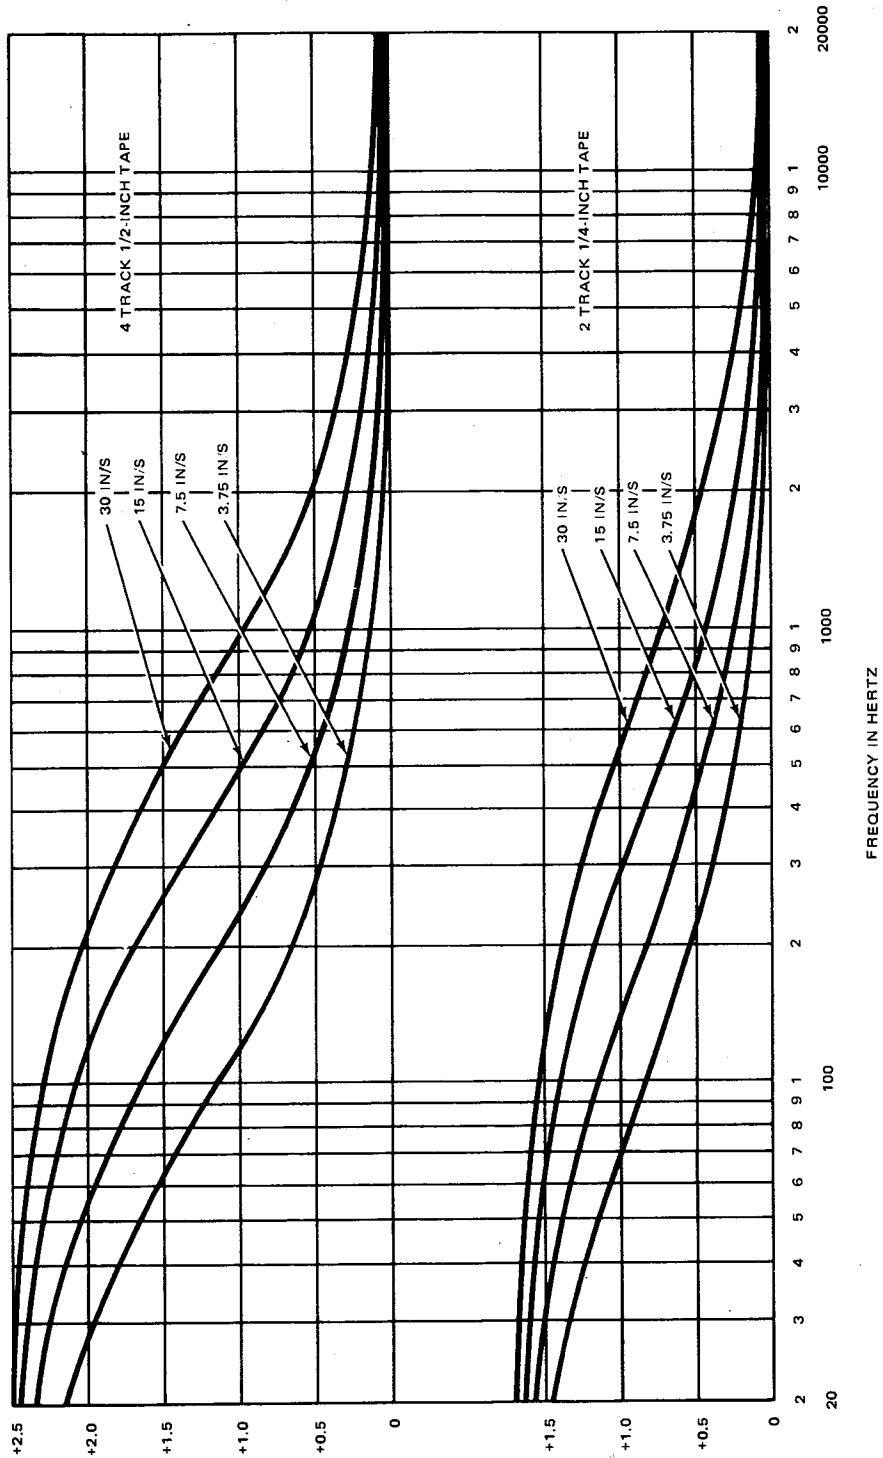

Figure 5-8. Relative Fringing Frequency Response Due to Fringing Effect
Therefore, if the equalization is correctly adjusted, the reproduce response when using a full-track alignment tape on either a 2-track, 1/4-inch tape system or a 4-track, 1/2-inch tape system should conform to the relative curves shown in Figure 5-8 within the tolerances given in Table 5-3. The curves given in Figure 5-8 display the *relative* fringing frequency response and *do not* include the fixed error due to the wider reproduce core width (as compared to the record head width).
The correction factors in Table 5-4 are the amounts by which the actual measured reproduce output from a full width alignment tape will exceed the reproduce output of the correct track width recorded to the same fluxivity. The table includes the fixed error due to the wider reproduce core width and the relative fringing error (shown in Figure 5-8) for frequencies of 500 Hz, 700 Hz, and 1.0 kHz. For example, when reproducing the 700-Hz, 185 nWb/m tone on an Ampex 15 in/s full-width alignment tape on a 2-track, 1/4-inch tape system, the output (as read on an ac voltmeter) will be +1.14 dB higher (Table 5-4) as compared to reproducing an alignment tape that has the same track format as the recorder/reproducer.
0.58 dB – relative fringing frequency response due to fringing error effect at 700 Hz and 15 in/s (Figure 5-8).
NOTE: To the above tolerances, add manufacturing tolerances of the alignment tape and relative fringing frequency response due to fringing effect (Figure 5-8).
*The amplitude correction factors shown in the table are the sum of the values shown in Figure 5-8 for the frequencies shown in the table, and the fixed errors due to wider reproduce core width as follows:
same level obtained in step 9 (or to required relative level as indicated in Figure 5-8, if applicable).
13. Reproduce the frequency response test tones on the alignment tape. Reproduce response should conform to tolerances shown in Table 5-3. If applicable, refer to relative fringing error curves shown in Figure 5-8.